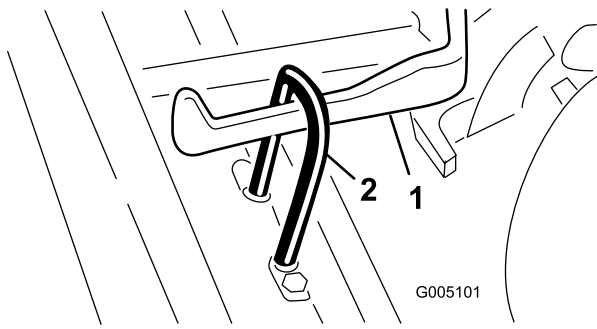

Figure 12
3. Slide the cutting unit under the pull frame while hooking the lift hook onto the lift arm (Figure 12).